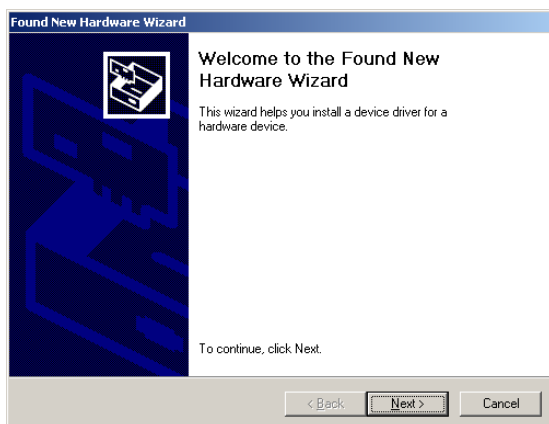

Figure 7. Add New Hardware Wizard Initial Screen
- 3 Select **Next** as shown in Figure 7.